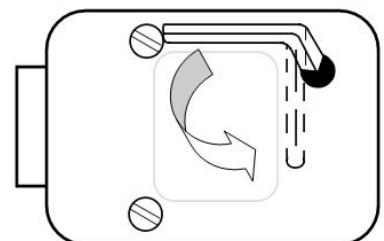

Figure 3. After entering the last number of the combination, turn the change key one-quarter turn counterclockwise and remove the key.
- c. Turn the dial to the **LEFT**, stopping when the third number is aligned with the changing index, the **SECOND** time. Holding the dial in this position, turn the change key back to the **RIGHT** and remove it (See Figure 3). The new combination you have chosen is now set in the lock.